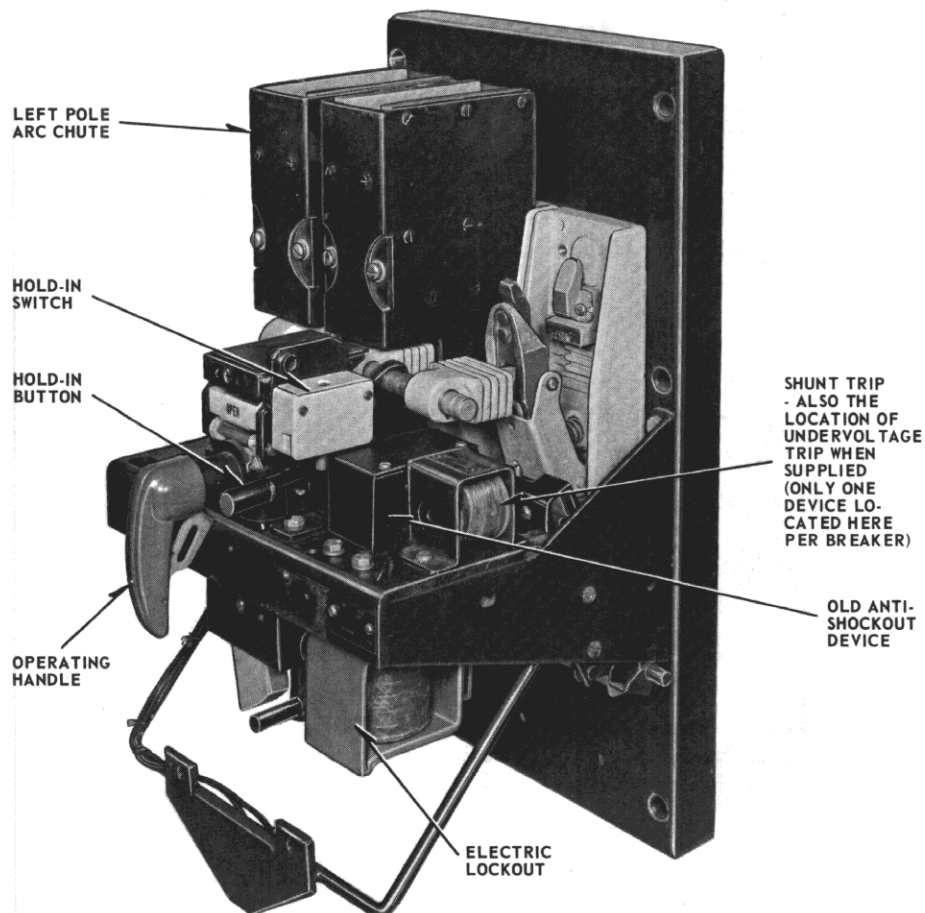

FIGURE 1. Identification of Main Components
9.2 Remove hold-in switch (Fig. 1) and discard. Splice the two leads which were in switch together.